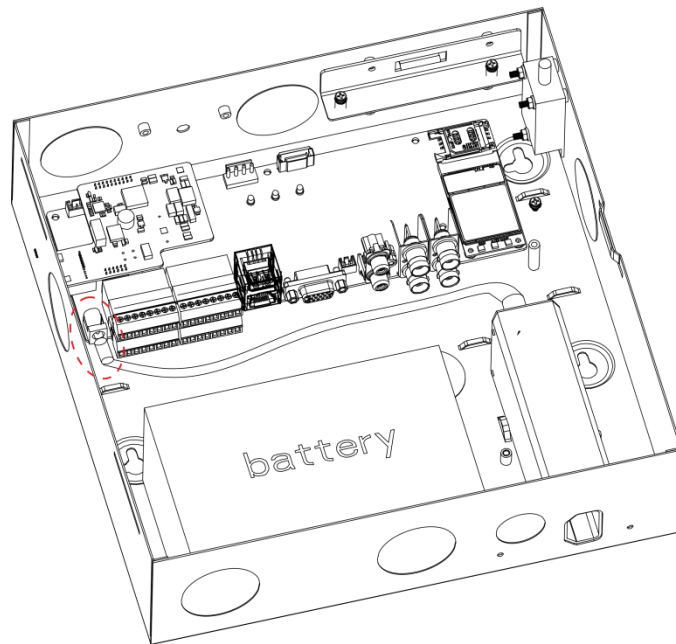

Figure 2-10
Step 2. Place power adaptor inside controller, and adaptor port faces power out hole on case. Insert power line into power port on the controller, see Figure 2-10.